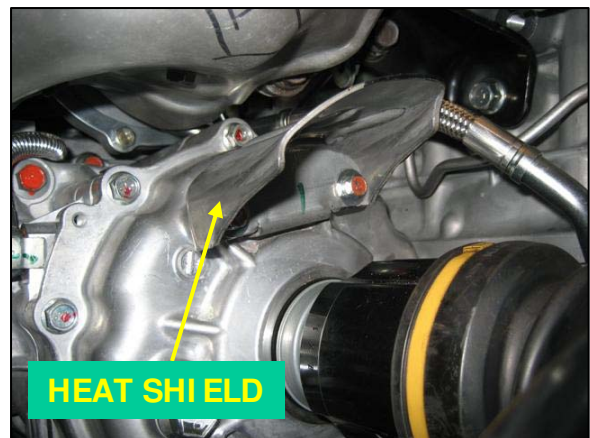

Fig. 18
20. Remove the heat shield above the passenger-side inner driveshaft boot. This part will be trimmed in step 48 and reused (2 bolts, 10mm socket). See *Fig. 18*.